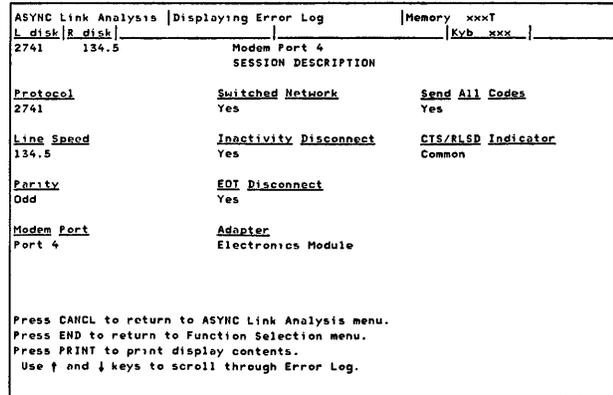

Figure 3-13. Sample Session Description Display
1. Error Log Session Description (Figure 3-13)